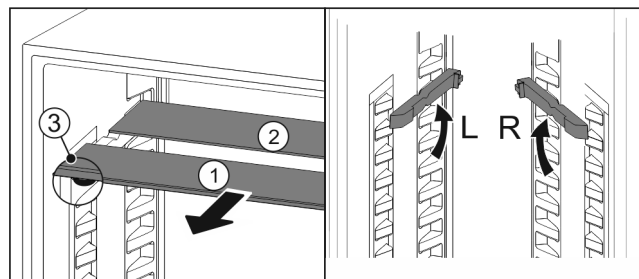

Fig. 88
- ▶ Pull the glass panels out Fig. 88 (1) from the front, one at a time.
- ▷ The glass panel *Fig. 88 (1)* with the trim strip is at the front.
- ▷ The stops *Fig. 88 (3)* point downward.